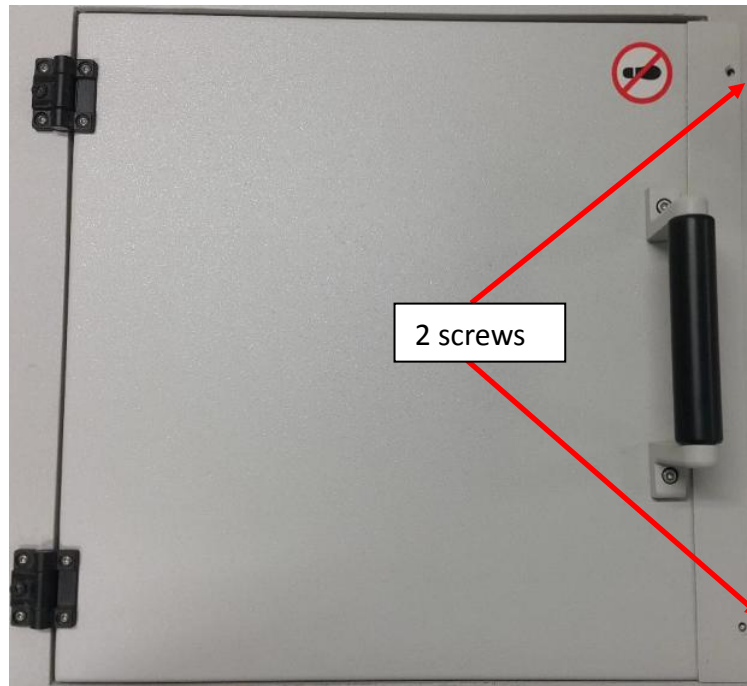

Figure 1 X-ray top enclosure
1. Remove 2 x screws from top enclosure of the X-Ray machine as shown in the Figure 1.